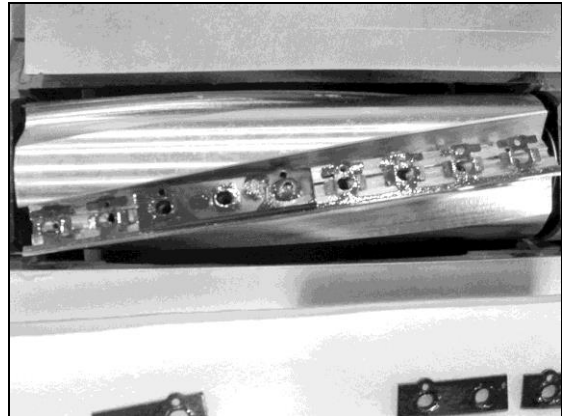

Figure 19
3. Starting in the middle of the knife, place the gib plate on the knife and lightly screw in one of the gib screws so that the knife tab seats in the slot. Figure 19